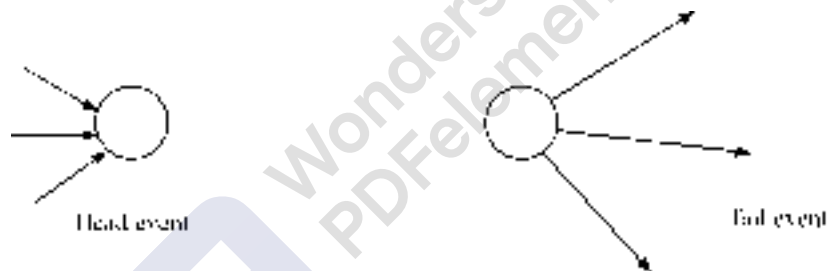

Figure 15.8. Tail event and Head event.
- (f) When the event is written at the tail end of an arrow, it is known as **tail event**. If event is written on the head side of the arrow it is known as **head event**. A tail event may have any number of arrows (activities) emerging from it. This is to say that an event may be a tail event to any number of activities. Similarly, a head event may be a head event for any number of activities. This is to say that many activities may conclude at one event. This is shown in figure 15.8.